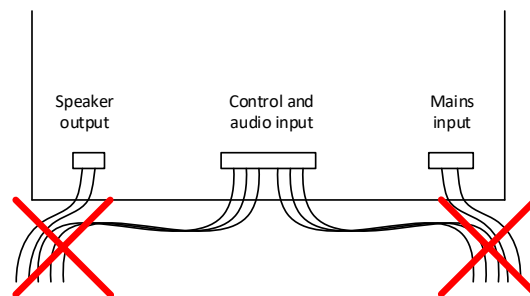

Figure 32: Wire bundling
- Do not bundle mains wires together with other cables (Figure 32).
- Do not bundle speaker wires together with other cables (Figure 32).